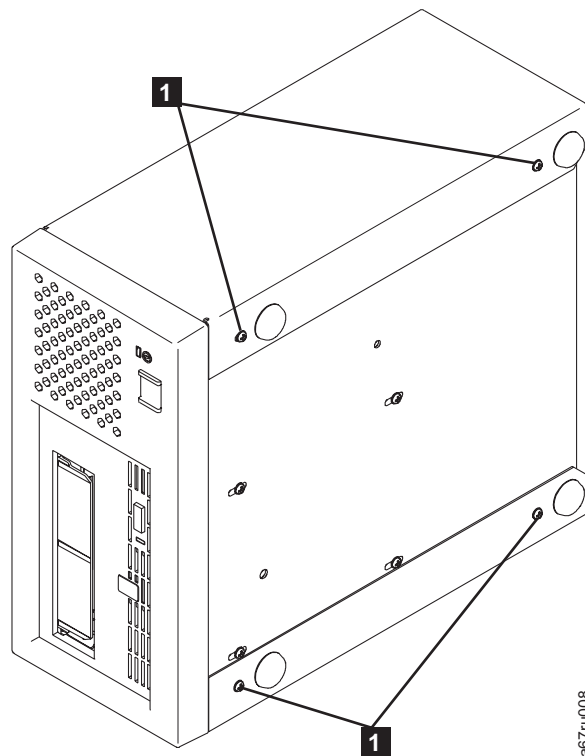

Figure F-1. Removing the screws that secure the cover and internal drive
4. Remove the 4 screws (**1** in Figure F-1) by the feet.